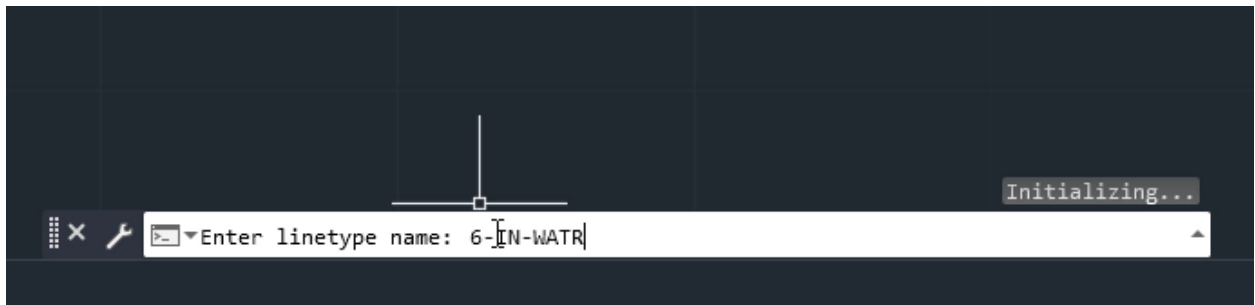

Figure 23: Specifying Linetype Definition information.
3. Follow command prompts to specify Linetype definition information (Name, Description, etc) as shown in Figure 23.